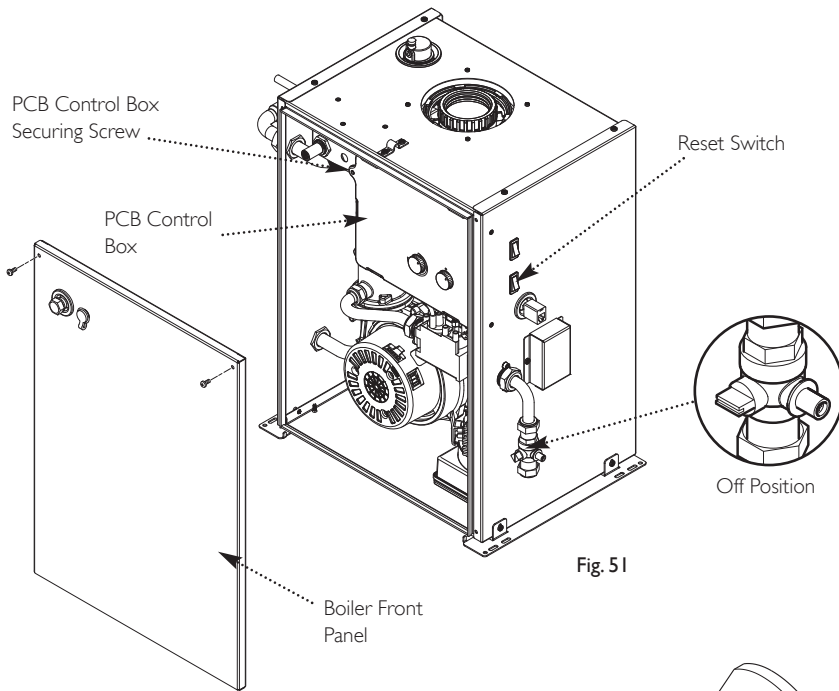

Fig. 51
3. Operate the Reset switch (Fig. 51) to activate the condensate pump and then repeat. This will empty most of the condensate from the sump. **Isolate the boiler from the electrical supply** (see Electrical Test Point, Fig. 48).
4. Undo & remove the flue sampling plug and washer. Remove the screws retaining the boiler front panel, and lift the panel away (Fig. 51).
5. Remove the screw securing the PCB control box and swing the box to the right (Fig. 51).